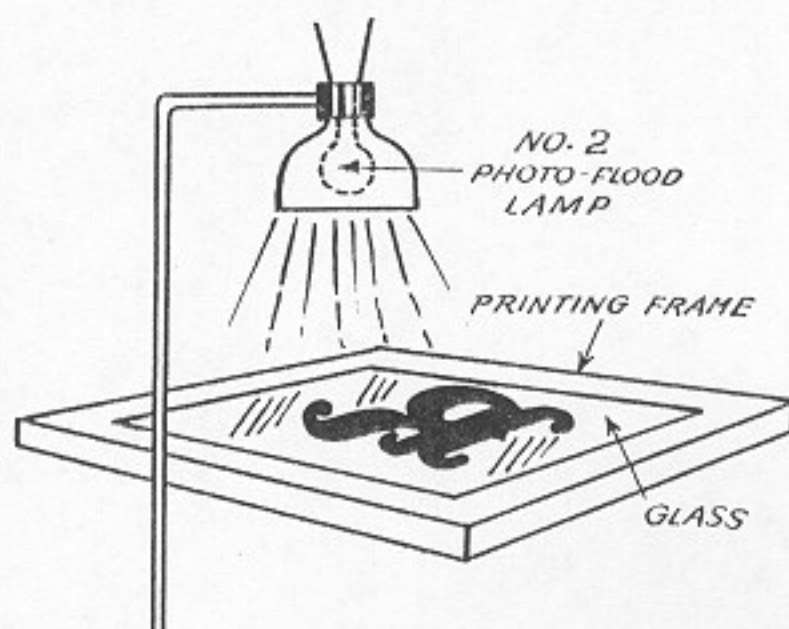

Fig. 141. Expose the Film
8. Suspend a No. 2 photo flood lamp twelve to eighteen inches from the printing frame, Fig. 141. The distance from the frame is determined by the size of the area to be exposed. Turn the frame glass side up and expose the film for $1\frac{1}{2}$ to 3 minutes. The exact time will depend upon the distance from the light to the film. A little experimenting will soon enable you to determine the exposure required. Film manufacturers will include tables along with their film. Generally, exposure time is governed by several factors:
4 minutes with a No. 2 photoflood lamp at a distance of two feet, Fig. 141. Use a watch to measure the exposure. After this operation the work may be continued in normal room light.